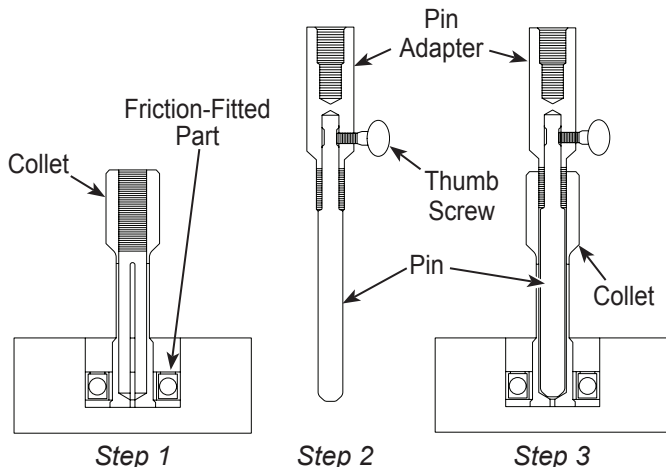

Figure 1
- Slide the collet into the bore/opening until the lip on the end of the collet is under/behind the friction-fitted part. See Step 1, Figure 1.
- Select the pin paired with the collet and insert the notched end of the pin into the bottom of the pin adapter. Tighten the thumb screw on the adapter to lock the pin in place. See Step 2, Figure 1.
- Insert the tip of the pin into the collet and thread the pin adapter into the collet. Firmly tighten the pin adapter until the lip of the collet is tightly expanded and locked under/behind the friction-fitted part. See Step 3, Figure 1.